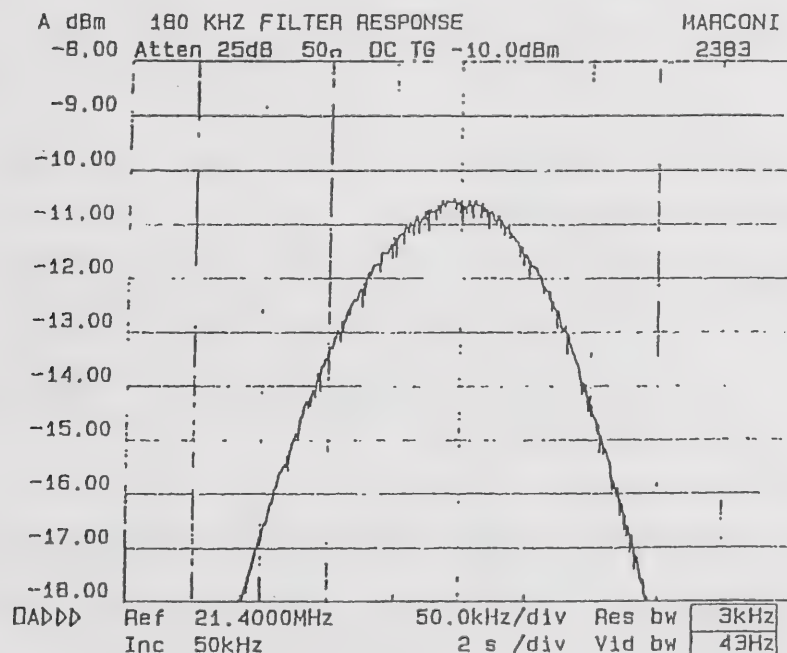
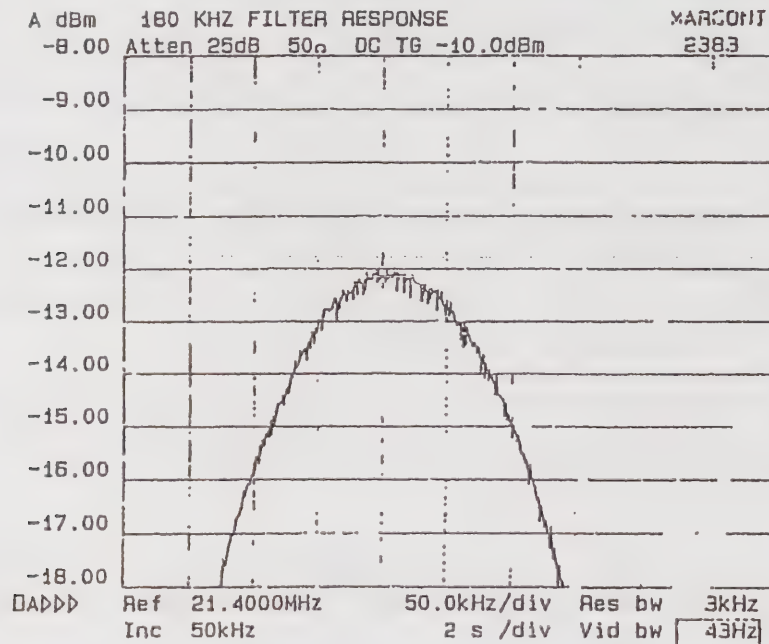

Fig. 3-18 Response of 20 dB IF 180 kHz band-pass amplifier (lid secured)
Fig. 3-19 Response of 20 dB IF 180 kHz band-pass amplifier (lid removed)
- (5) Connect the signal generator output to the RF IN/OUT BNC socket.
- (6) Set the signal generator to 71.4 MHz and -20 dBm.
- (7) Select the CALIBRATION MODE display by pressing in turn the HELP, TX MON ON-OFF, AC DC, VERT Δ , FREQ \downarrow and REP SWEEP keys.
- (8) On the display, check that RANGE 2 is indicated. Press the HOLD RANGE key. 2 then appears in reverse video.
- (9) Disconnect the signal generator.
- (10) Connect the tracking generator output through the 50 dB attenuator to the RF IN/OUT BNC socket.
- (11) Set the spectrum analyzer to 21.4 MHz, span to 50 kHz/division, reference level to -8 dBm, span to 1 dB/division, resolution bandwidth to 3 kHz, video bandwidth to 43 Hz and tracking generator on.
- (12) Check that the response is as shown in Fig. 3-18 and that the 3 dB points give a bandwidth of 180 ± 40 kHz.
- (13) Reset the spectrum analyzer to 200 kHz/division and 10 dB/division.
- (14) Check that the rejection at 1 MHz offset is >38 dB.
When adjusting the response, the receiver tray lid has to be removed. This affects the response by shifting the centre frequency downwards by approximately 50 kHz. The ideal response is as shown in Fig. 3-18. With the lid removed, the response is as shown in Fig. 3-19.
To adjust the response, proceed as in 'Bypass switch driver' and use C15, C18, C27 and C31 as necessary tune the filters as shown in Fig. 3-19. The 3 dB points should give a bandwidth of 180 ± 40 kHz. After adjusting the response, replace the receiver tray lid and check that the response is now as shown in Fig. 3-18.